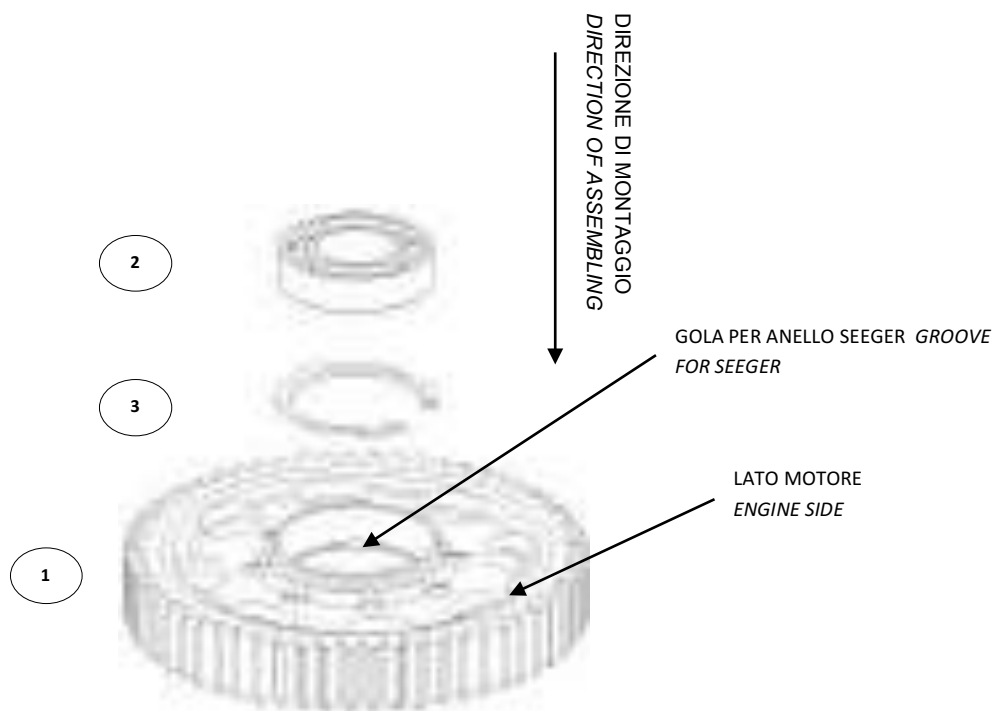

Fig.1
COLLOCARE, AVENDO CURA DI NON DANNEGGIARE LE SEDI, PRIMA IL SEEGER (3) E POI IL CUSCINETTO (2). IL SEEGER (3) E IL CUSCINETTO (2) DEVONO ESSERE INSERITI NELLA PARTE DELL'INGRANAGGIO CHE RESTERA' RIVOLTA VERSO IL MOTORE (LA PARTE OPPOSTA ALLA ZONA PER IL FISSAGGIO DELLA CAMPANA). L'ANELLO SEEGER DEVE ESSERE INSERITO ALL'INTERNO DELLA GOLA PRESENTE NELL'INGRANAGGIO PRIMARIO, COME MOSTRATO IN FIGURA (Fig.1).
TAKING CARE NOT TO DAMAGE THE LOCATION, FIT FIRST THE SEEGER (3) AND AFTER BEARING (2). THEY MUST BE FITTED ON THE SHAFT ENGINE SIDE (THE OPPOSITE SIDE OF BASKET FITTING). THE SEEGER MUST BE INSERT IN THE GROOVE INSIDE THE PRIMARY SHAFT, AS SHOWN IN THE PICTURE BELOW (Fig.1)